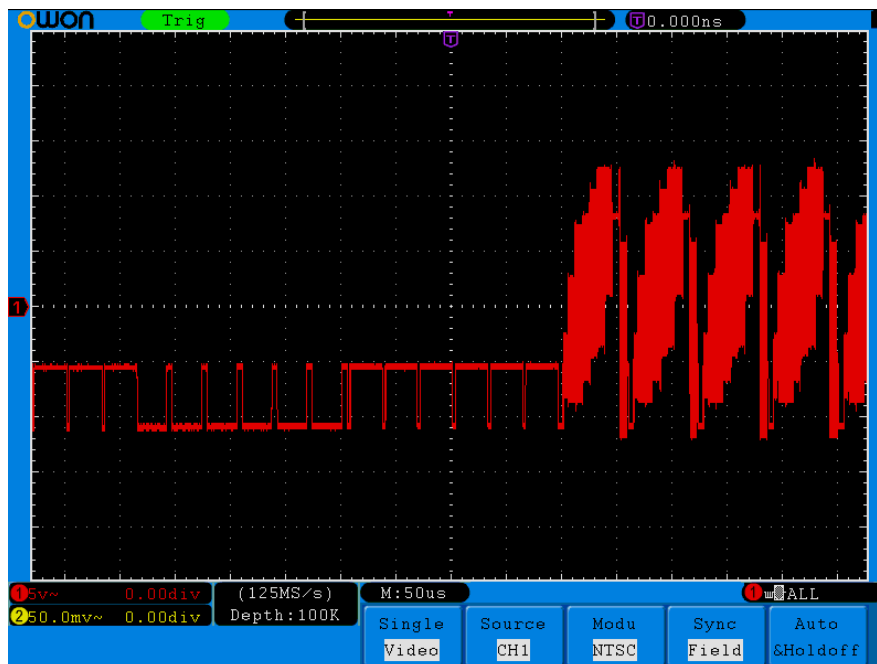

Figure 7-7 Waveform Captured from Video Field Trigger
- (1) Press the **Trigger Menu** button to display the trigger menu.
- (2) Press the **H1** button to display the trigger type menu.
- (3) Press the **F1** button to choose **Single** for Type.
- (4) Turn the **M** knob to choose **Video** as the mode.
- (5) Press the **H2** button to display the Source menu.
- (6) Press the **F1** button to choose **CH1** for Source.
- (7) Press the **H3** button to display the Modu menu.
- (8) Press the **F1** button to choose **NTSC** for the modulation.
- (9) Press the **H4** button to display the sync menu.
- (10) Press the **F2** button to choose **Field** for Sync.
- (11) Turn the **VOLTS/DIV**, **VERTICAL POSITION** and **SEC/DIV** knobs to obtain a proper waveform display (see *Figure 7-7*).